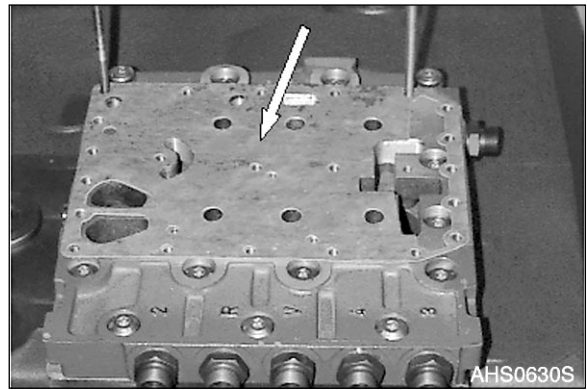

Figure 80
- I. Mount gasket (Figure 80).